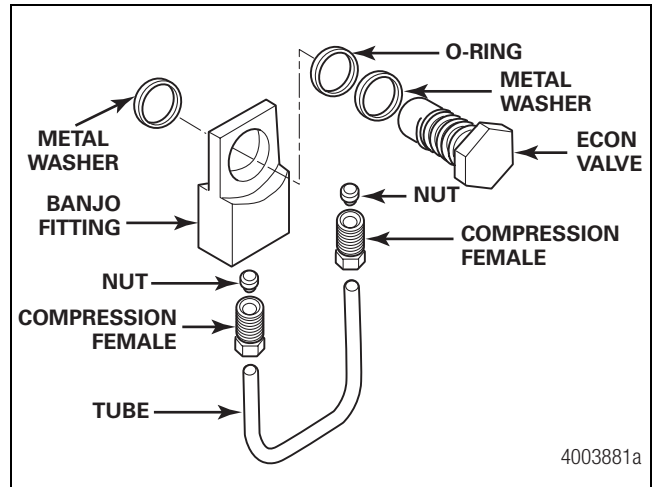
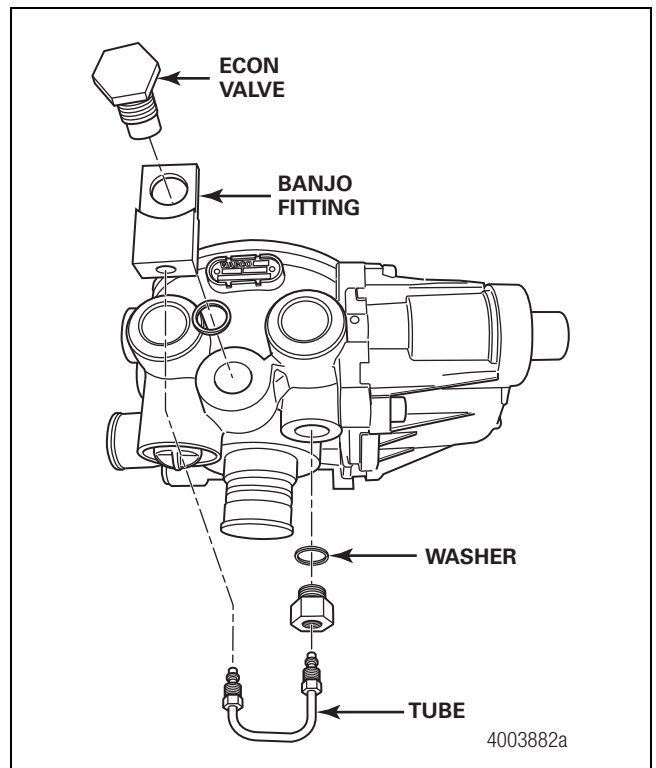

Figure 6.4
Figure 6.5
- A. Using a flare wrench, loosen the compression nuts on each end of the U-shaped tube. Figure 6.4 and Figure 6.5.